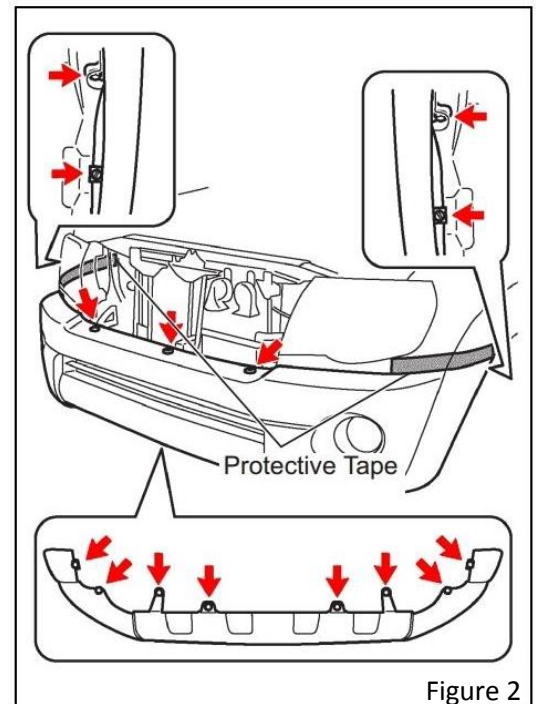

Figure 2
6. Next, remove the front bumper cover. Start by applying some protective tape to the outer circumference of the front bumper cover as shown in **Figure 2** at right.
7. Remove the 6 screws shown in **Figure 2** (2 at each end of the bottom of the bumper cover, and 1 in each wheel well inside a "D" shaped opening in the fender liner).